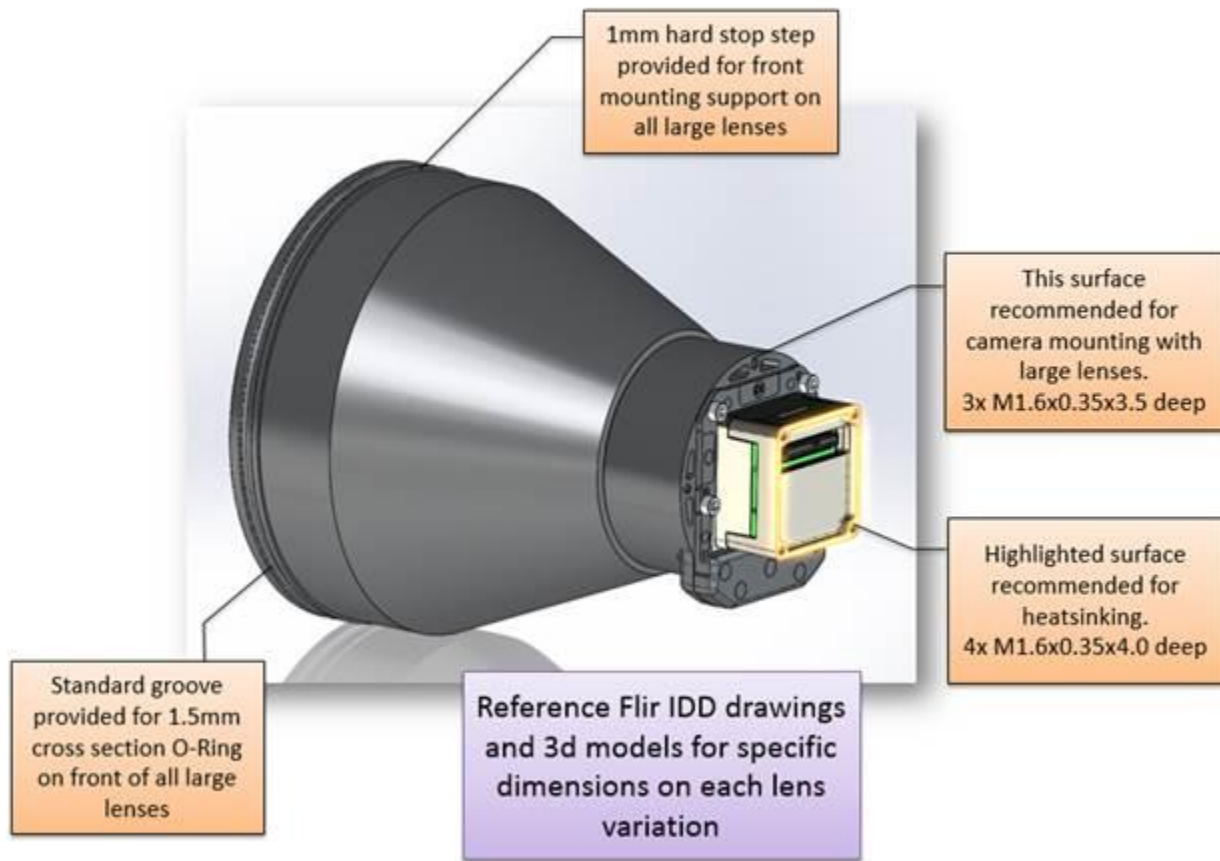

Figure 48: Mounting Guidance for Large-Lens Configurations
- **Lens Mounting:** Generally speaking, Boson should be supported at its lens for all Boson configurations for which the mass of the lens assembly is greater than the mass of the sensor engine. This condition is true for every lens which uses the M24 or M36 flange. (See Table 11 in Section 10). Each of those lens assemblies provides suitable features for mounting and sealing, as summarized in Figure 48. It is worth noting that even configurations which are mounted via the lens features require heatsinking via the rear surface. It is also worth noting that the correct orientation of the camera is with the connector located above centerline, as depicted in Figure 5. Rotating the camera 180 degrees such that the connector is below centerline rather than above will result in an upside-down image.